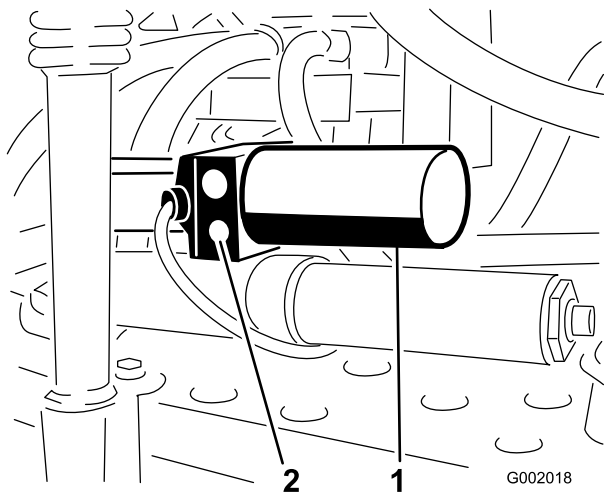

Figure 72
- Locate the manual relief valve on the actuator for each boom. The manual relief valve is the smaller valve and is only on one side of the actuator body (Figure 72).